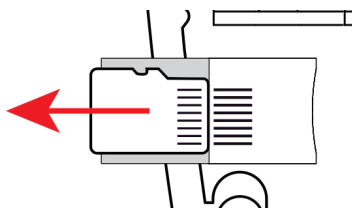

Figure 43
7. Push the SD card slot down and push it to the left to lock it (see Figure 43).